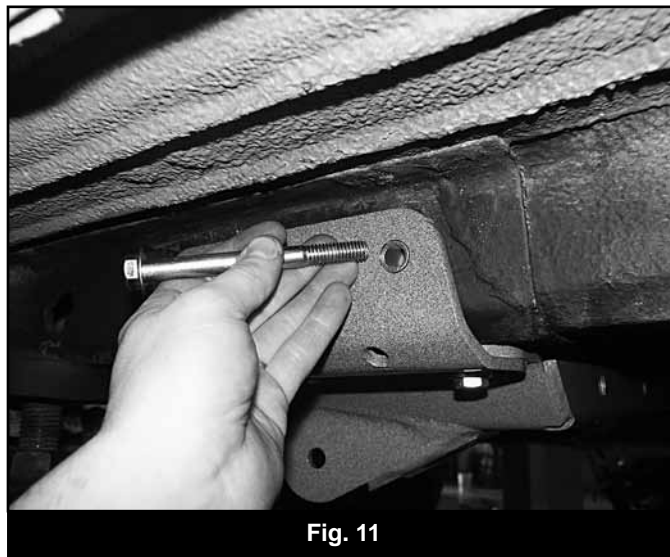

Fig. 11
25. Install a 3/8" USS washer on a 7/16" x 4-1/2" bolt (BP 715) and insert it into the frame crush sleeve. Push the bolt and sleeve all the way into the frame so that the sleeve is against the inside surface of the frame and the bolt is sticking out of the inside 7/16" hole. Fasten the bolt on the inside of the frame with a 3/8" USS washer and 7/16" nut from bolt pack 715 (Fig 11). Leave hardware loose. Ensure that the bolt does not hit the fuel or brake lines. Reform these lines as necessary.